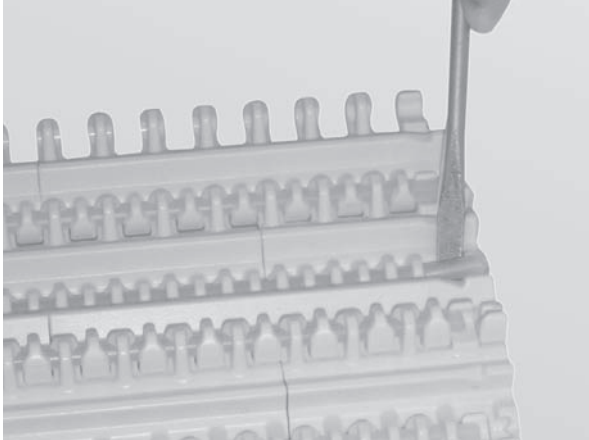

Figure 51
2. Use a flat head screwdriver to raise the end of the belt rod above the retention lip (**Figure 51**).